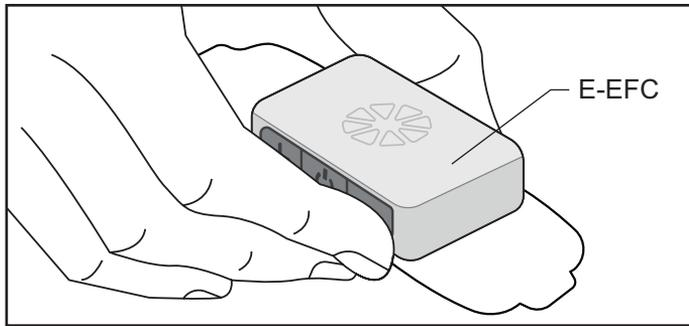

Figure 9-3: Grasp the edges of the E-EFC attached to the Gel electrode
3. Using the index finger and thumb, grasp the edges of the E-EFC attached to the Gel Electrode so the gel pads face downward. See Figure 9-3.